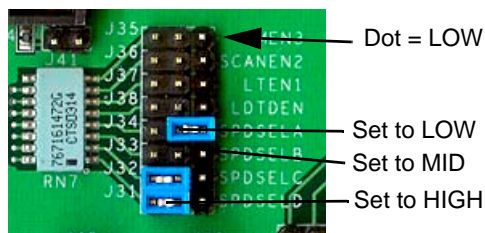

Figure 6-1. Speed Select Control with Jumpers
To set the appropriate operating range for each channel's transmit and receive PLL, jumpers need to be placed on the correct SPDSELx headers for each channel. Shown in *Figure 6-1* is a picture of the headers and the set-up of the jumpers. SPDSELD is set to low by connecting a jumper across the right and center pins. The white dot that is beside each pin of the right column represents the LOW level. SPDSELC is set to HIGH by connecting a jumper across the left and center pins. SPDSELB and SPDSELA are set to MID by having no jumpers connected.
4. Set SPDSELA to HIGH (see Figure 6-1 on page 17).